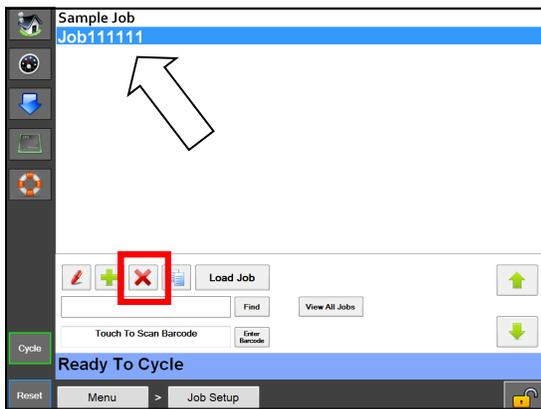

Figure 5-4A. Deleting Job.
3. Press the Red “X” button. **Figure 5-4A.**